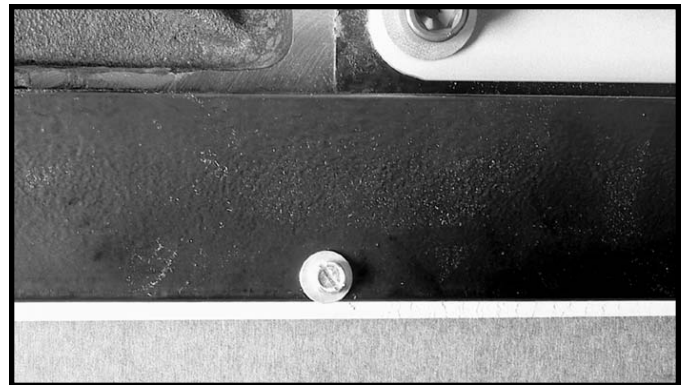

Fig. 110
7. Fasten the rear table board to the rear rail with two 10-32x1" hex head screws, 3/16" lockwashers, 3/16" flat washers, and 10-32 nuts, Fig. 110 (shown from underneath the rear guide rail and the table).